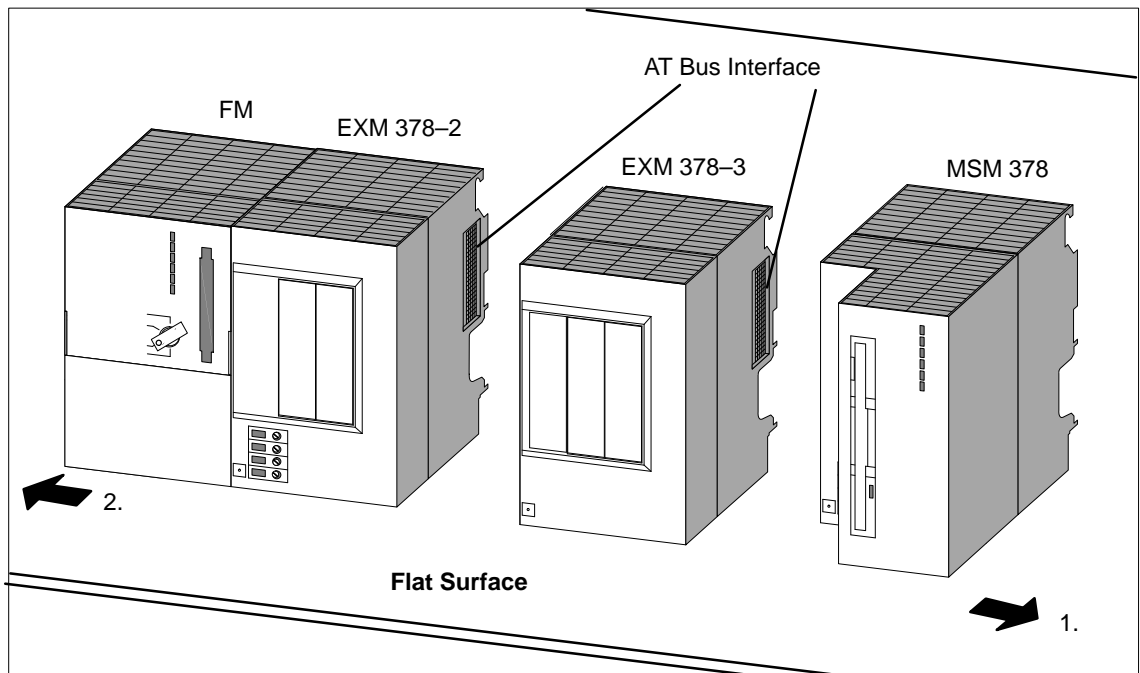

Figure 5-5 Separating a Module Assembly to Enable an EXM 378-3 Interface Module to be Replaced
10. Pull the adjoining modules carefully away from the module to be replaced, so that the ISA bus connector is disconnected (Figure 5-5).